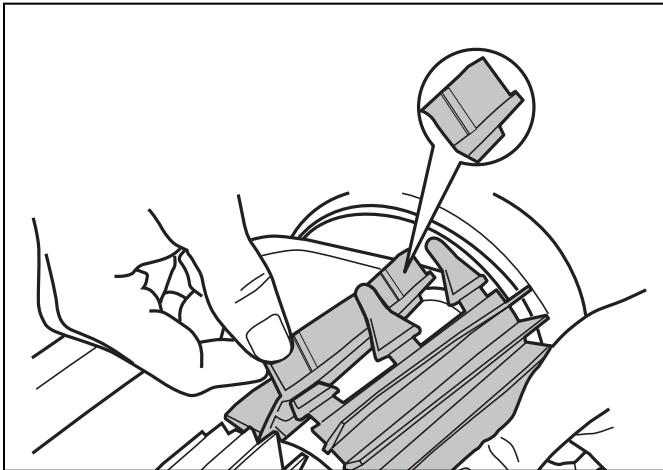

Figure 25. Wear Indicators
The cleaner is fitted with PVC brushes. There are "wear" indicators on the brushes (Figure 25). To maintain cleaner performance at its best you need to replace the brushes as soon as one of the wear indicators is reached (even if the blade wear is not even). It is recommended that you replace the brushes when the wear indicator is reach or every two (2) years which ever comes first.